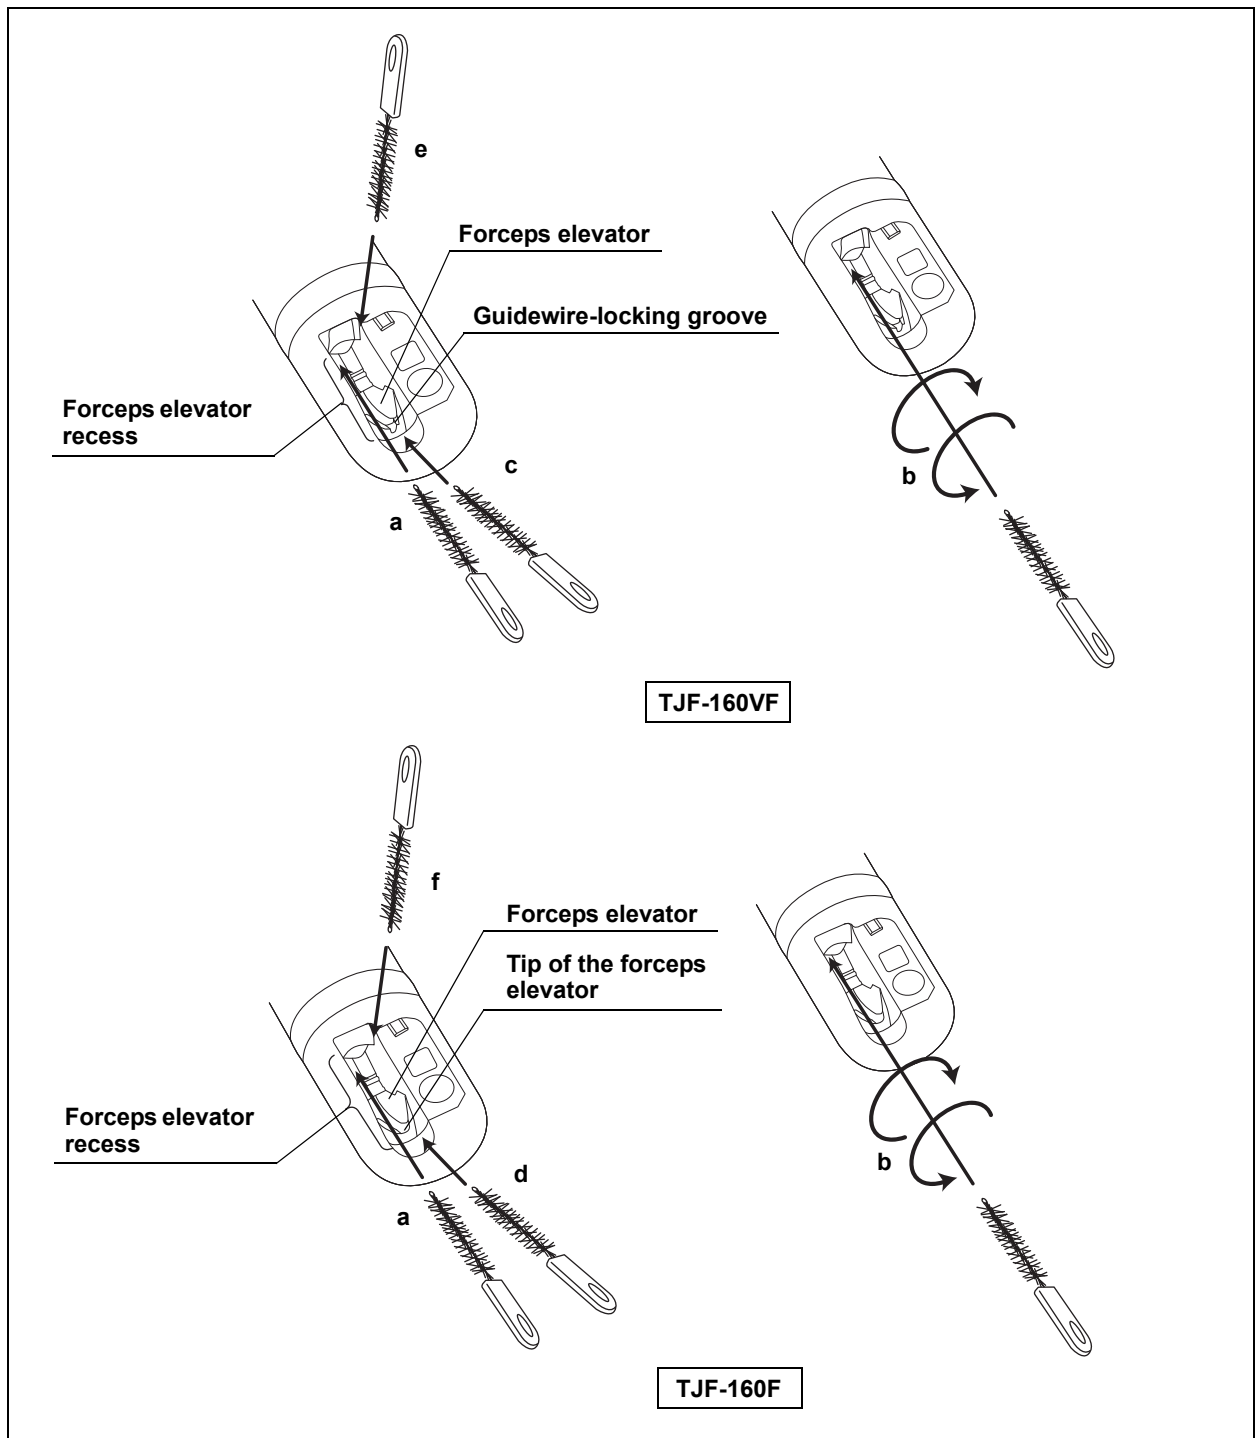

Figure 5.14
2. While the bending section is kept straight, insert the channel-opening cleaning brush (MH-507) or the single use channel-opening cleaning brush (MAJ-1339) or the channel-opening cleaning brush part of the single use combination cleaning brush (BW-412T) into the forceps elevator recess along the forceps elevator (insert the brush into the instrument channel) until the brush handle touches the distal end of the endoscope and pull the brush out of the forceps elevator recess. Repeat the insertion and pulling out three times (see Figure 5.14 a).
4. While the bending section is kept straight, insert the channel-opening cleaning brush (MH-507) or the single use channel-opening cleaning brush (MAJ-1339) or the channel-opening cleaning brush part of the single use combination cleaning brush (BW-412T) into the forceps elevator recess along the forceps elevator (insert the brush into the instrument channel) until the brush handle touches the distal end of the endoscope, rotate the brush one full revolution in both directions, and pull the brush out of the forceps elevator recess. Repeat the insertion, rotations, and pulling out three times (see Figure 5.14 b).
While the bending section is kept straight, brush the guidewire-locking groove three times with the channel - opening cleaning brush (MH-507) or single use channel-opening cleaning brush (MAJ-1339) or the channel-opening cleaning brush part of the single use combination cleaning brush (BW-412T) (see Figure 5.14 c).
While the bending section is kept straight, brush the tip of the forceps elevator three times with the channel - opening cleaning brush (MH-507) or single use channel-opening cleaning brush (MAJ-1339) or the channel-opening cleaning brush part of the single use combination cleaning brush (BW-412T) (see Figure 5.14 d).
While the bending section is kept straight, brush the groove of the instrument channel outlet three times with the channel-opening cleaning brush (MH-507) or the single use channel-opening cleaning brush (MAJ-1339) or the channel-opening cleaning brush part of the single use combination cleaning brush (BW-412T) (see Figure 5.14 e).
While the bending section is kept straight, brush the corner of the instrument channel outlet three times with the channel-opening cleaning brush (MH-507) or the single use channel-opening cleaning brush (MAJ-1339) or the channel-opening cleaning brush part of the single use combination cleaning brush (BW-412T) (see Figure 5.14 f).